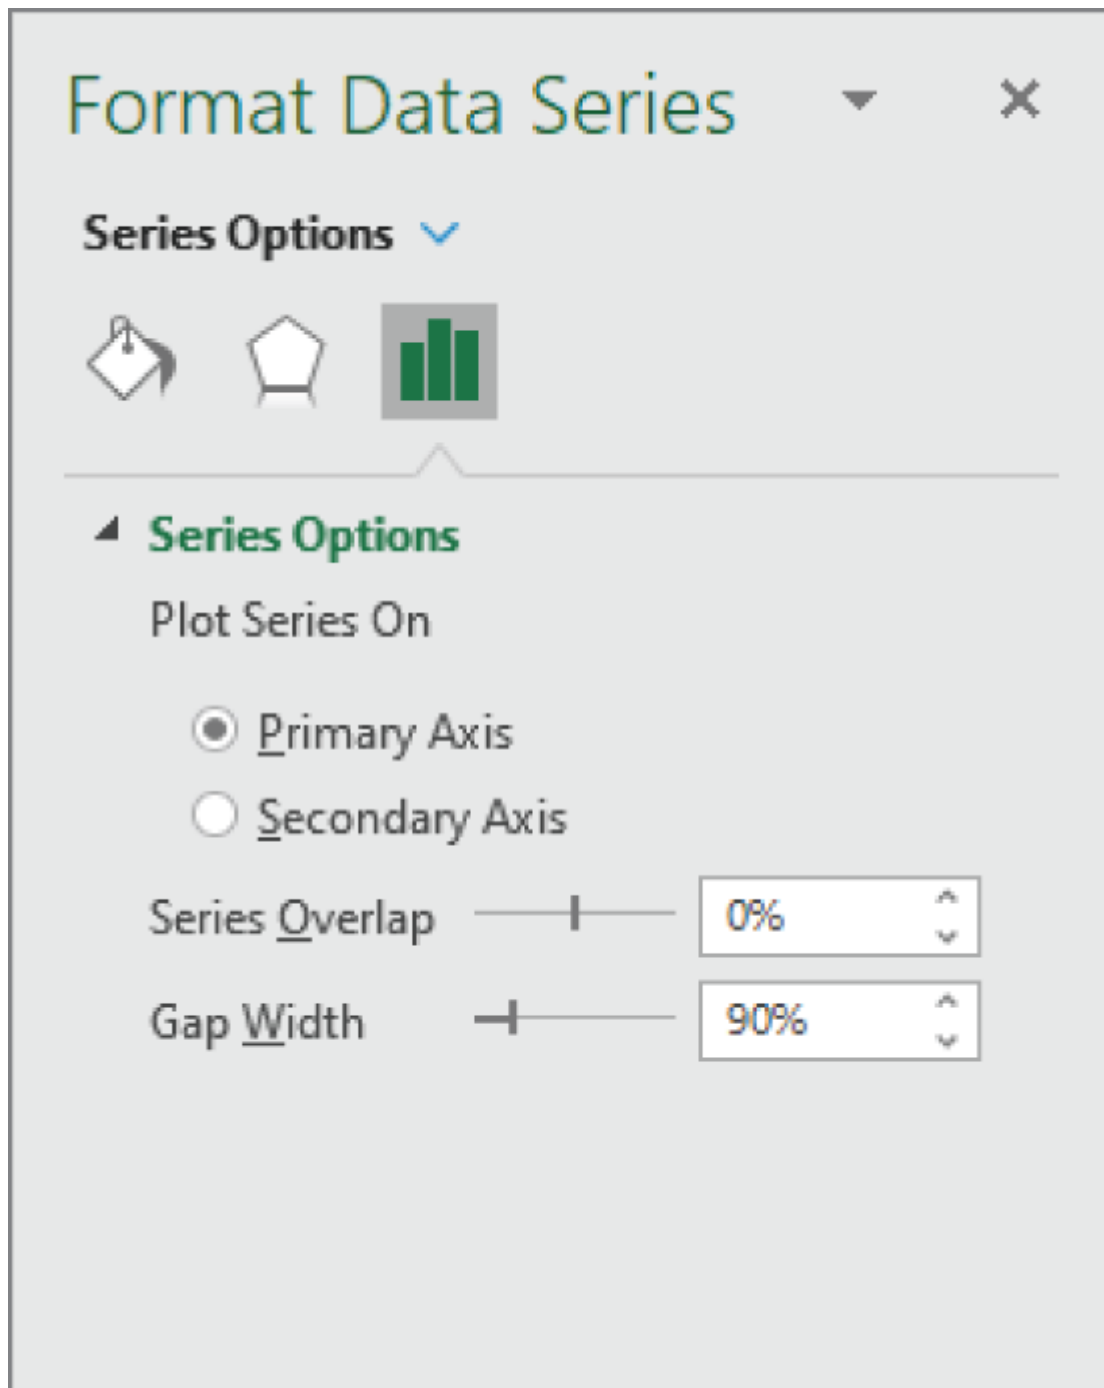

Figure 7.15: The Gap Width setting on the Format Data Series task pane
3. From the Chart Elements drop-down on the Format tab, select Series "Budget" to select that series. You can also select it directly in the chart, but sometimes there is only a small area sticking out and it's hard to select. Click the Format Selection button to show the Format Data Series task pane if it's not already visible. On the Series Options tab of the task pane, change Gap Width to 90%. Figure 7.15 shows the Format Data Series task pane.